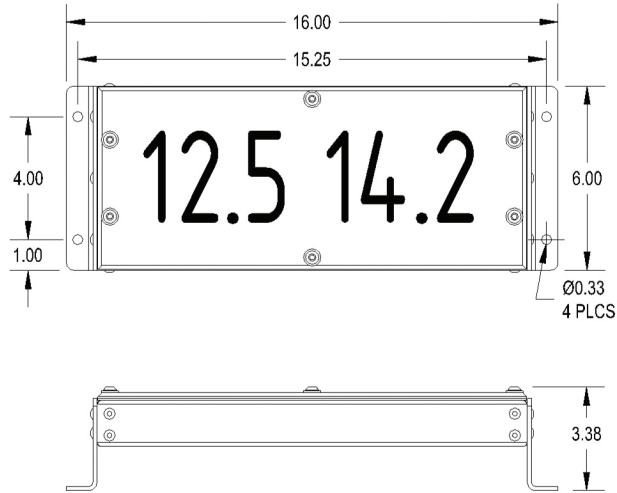

Figure 1 Chassis Mounting Measurements
1. Mount the chassis according to Figure 1